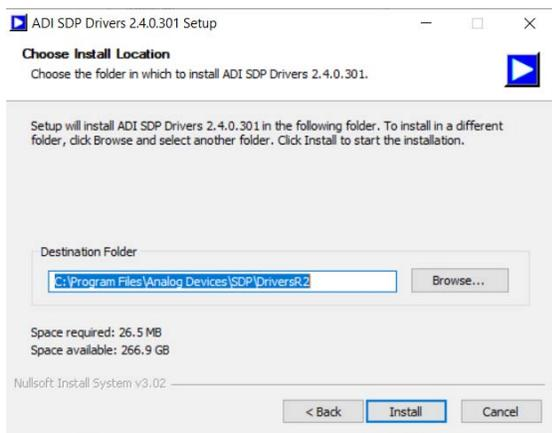

Figure 9. SDP Platform Installation Folder
- 4. Select the location to install the drivers, and then click **Install** (see Figure 9).